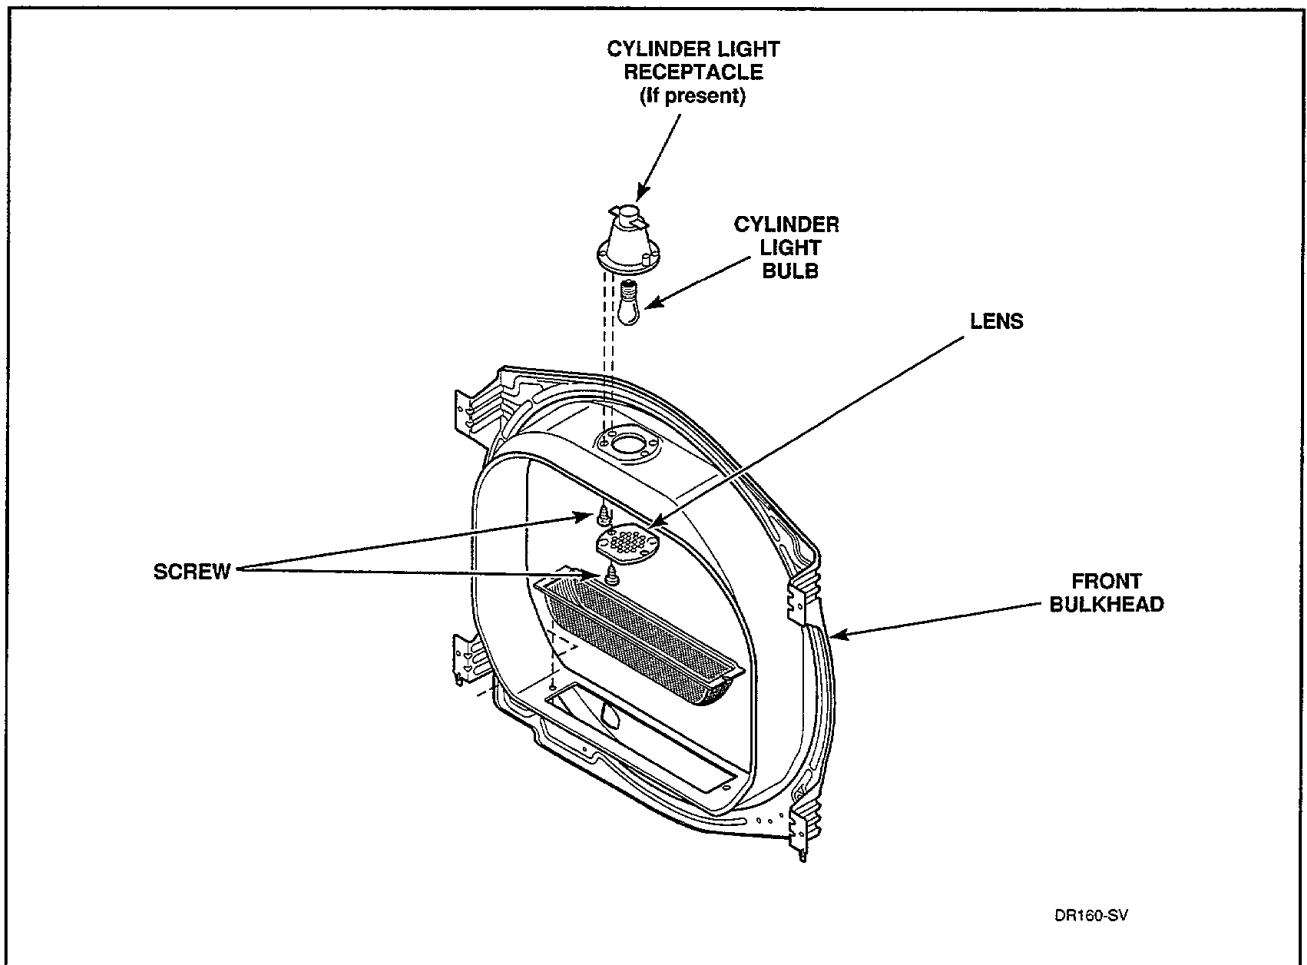

Figure 32
29. CYLINDER LIGHT BULB (*Figure 32*)
- Open loading door and remove screws holding the lens to the front bulkhead, *Figure 32*.
- Remove two screws holding receptacle to front bulkhead, *Figure 32*.